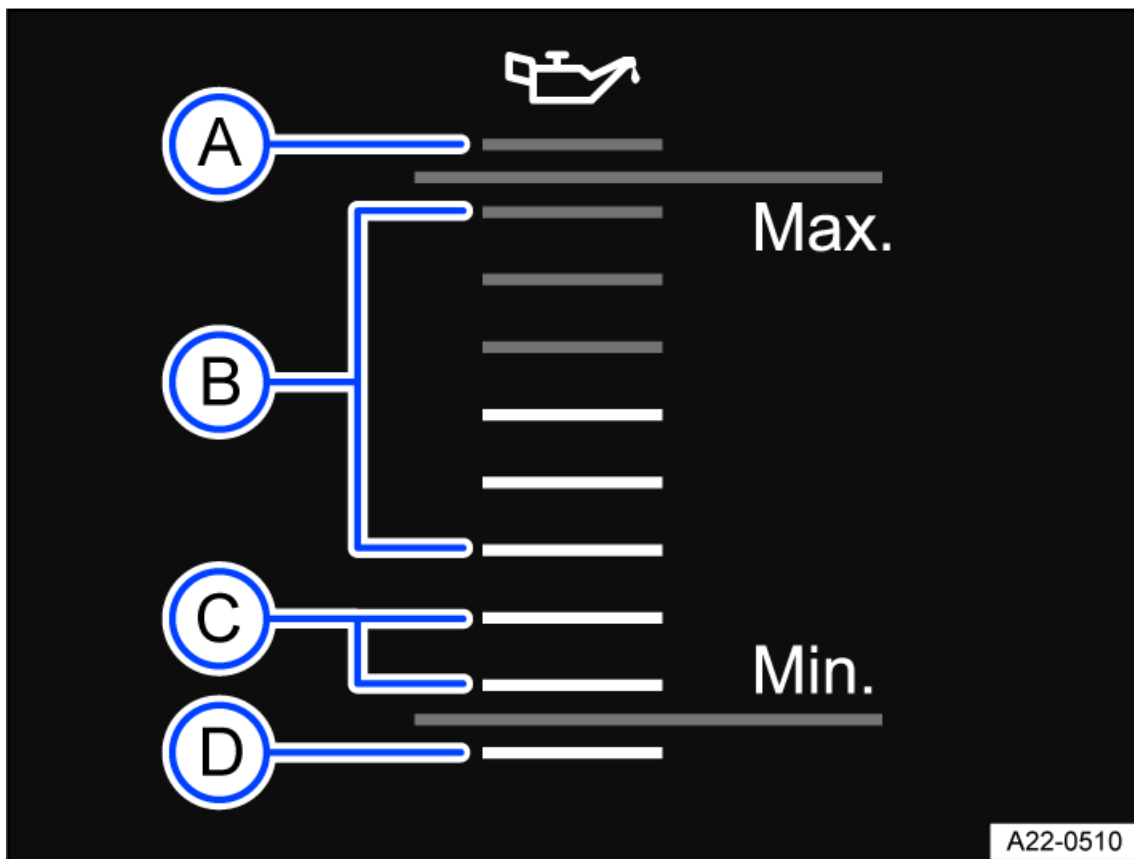

Fig. 174 In the Infotainment system: oil level display (general example).
4. Read the oil level on the digital oil level display again before adding a little more. When you are done adding oil, the oil level should be in the center of area *fig. 174* .
5. If you accidentally add too much engine oil and the engine oil level is in the area above *fig. 174* , do not start the engine ⇒ . Contact an authorized Volkswagen dealer or authorized Volkswagen Service Facility for assistance.